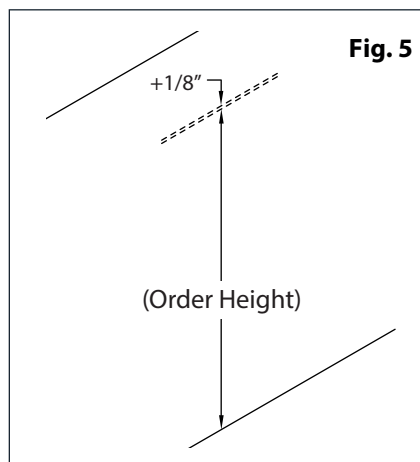

Fig. 5
2. Mark the location for the L-Connectors by adding 1/8" to the height shown on the order. Make sure it is in line with a stud inside the wall. See Figure 5.